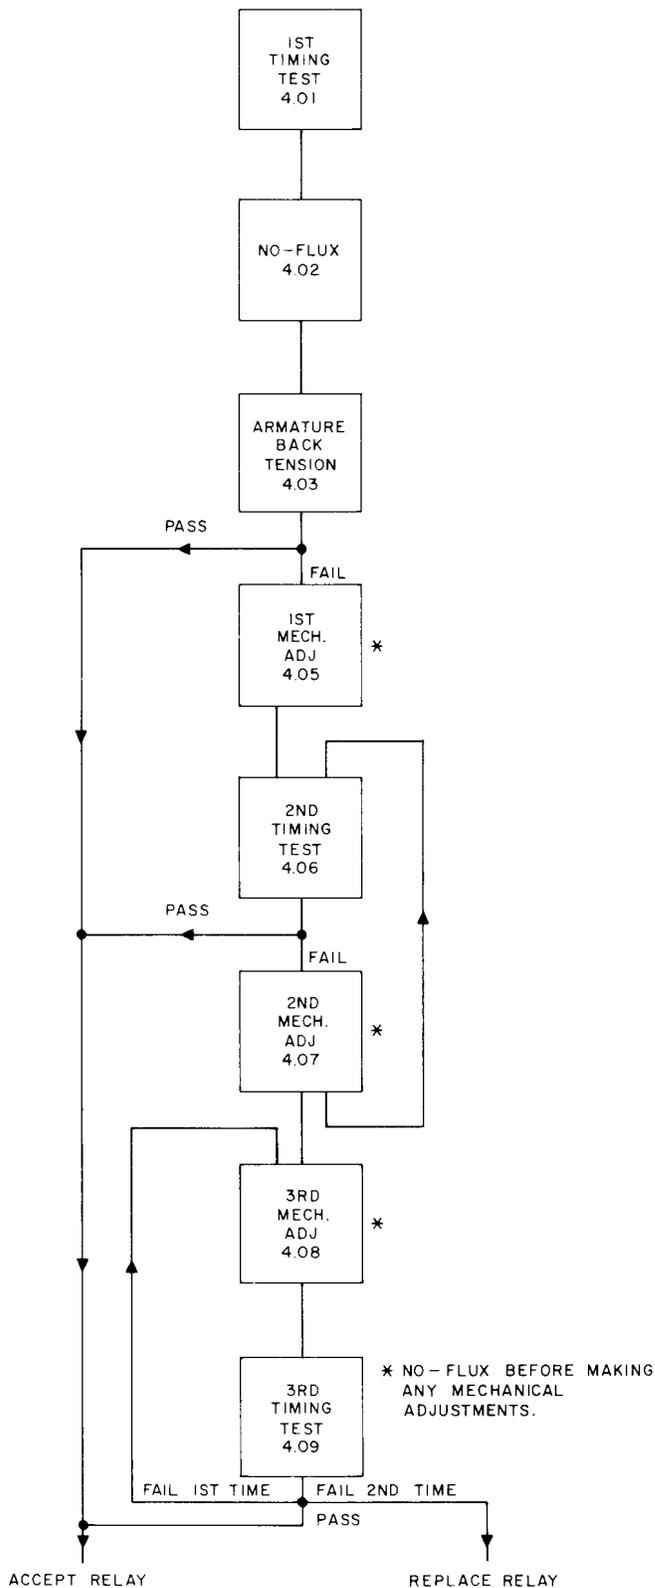
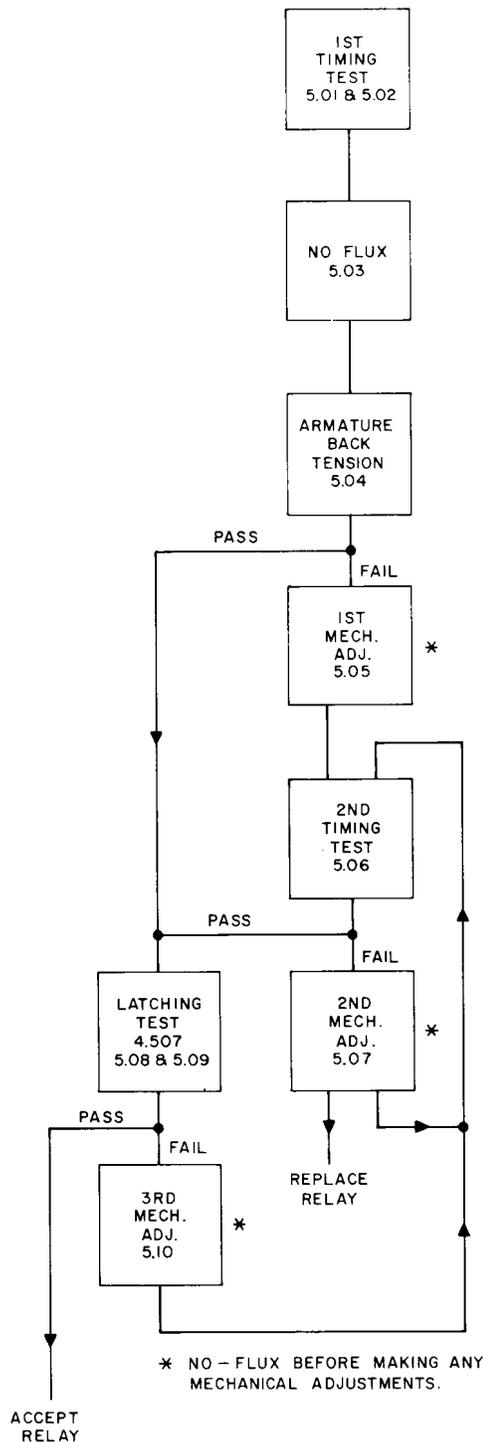

Fig. 4—Flow Diagram AL-Type Relay Timing Test Sequence
Fig. 5—Flow Diagram AM-Type Relay Timing Test Sequence
3.03 The operate time, release time, and latching force are affected by armature back tension and buffer spring adjustment. If it is found necessary to adjust a relay to meet timing requirements, the requirements for armature back tension and latching force must be rechecked. For this reason it is necessary to follow the steps outlined in this section and shown schematically on the flow diagrams Fig. 4 (AL-type) and Fig. 5 (AM-type) to test and adjust these relays.